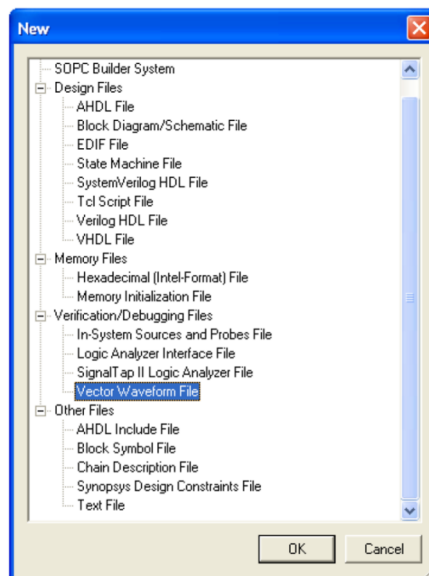

Figure 30. Need to prepare a new file.
1. Open the Waveform Editor window by selecting File > New, which gives the window shown in Figure 30. Choose Vector Waveform File and click OK.